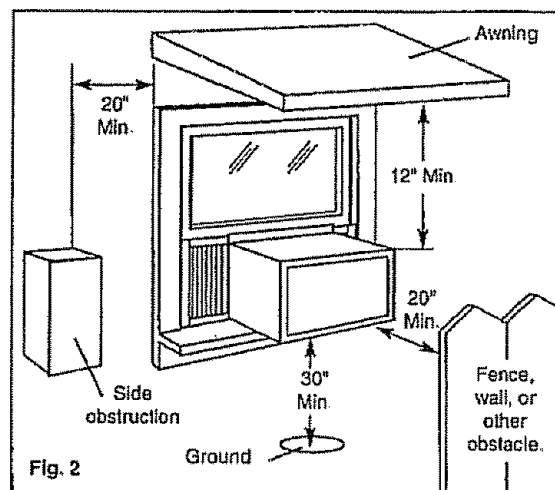

Fig. 2
- D. Provide sufficient clearance around the cabinet to allow for ample air circulation through the unit. See Fig. 2. The rear of the unit should be outdoors and not in a garage nor inside a building. Keep unit as far away as possible from obstacles/obstructions and at least 30" above the floor or ground. Curtains and other objects within a room should be prevented from blocking the air flow.
- Remove the air filter by grasping the filter handle (on front grill) and sliding it to the right. Fig. 2